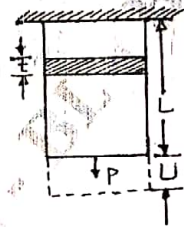

Fig. Q1 (b)
- b. A rectangular bar is subjected to an axial load 'P' as shown in Fig. Q1 (b). Determine the expression for potential energy functional and also find the extreme value of P.E. for the following data :